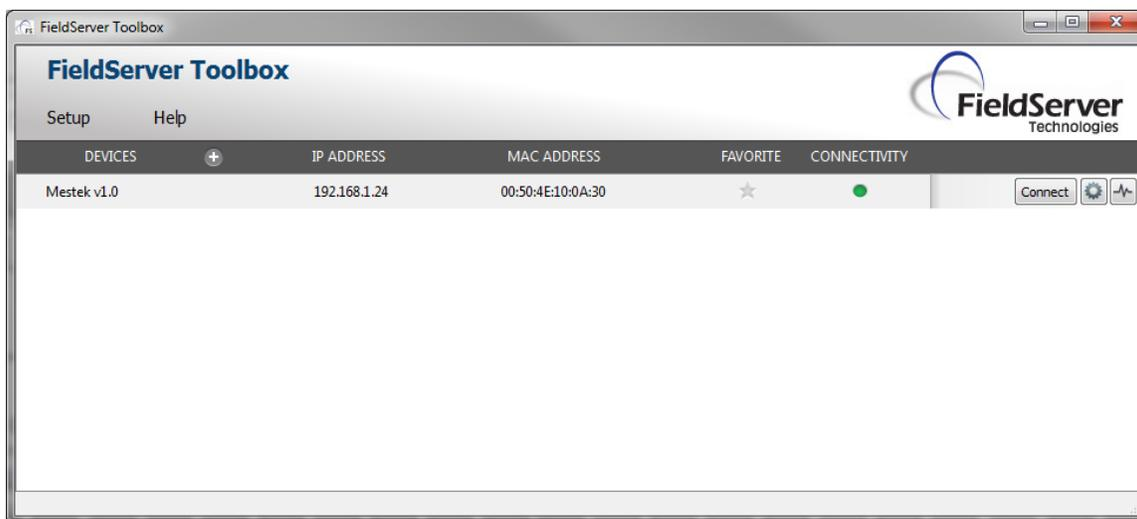

Figure 1 - FieldServer Toolbox
- 1) Connect a computer to the ProtoCessor using the FieldServer Toolbox application. For instructions on connecting a computer to the ProtoCessor, see the document: “*Connecting a computer to a Mestek Communications Bidge*”. You should see the FieldServer Toolbox screen as shown in Figure 1.